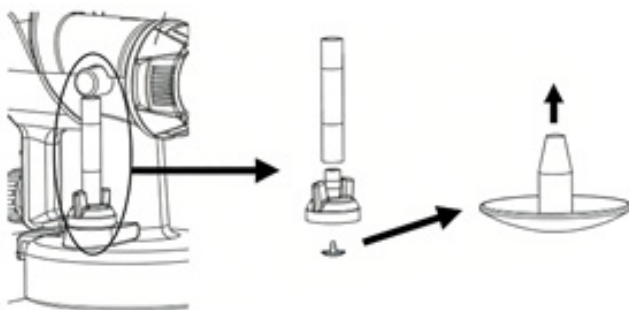

Fig. 10
- 3l) **Important! Check valve installation. See Fig. 10**